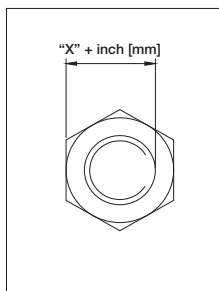

Figure 6
1. Measure the distance from the flat of the nut to the furthest side of the bolt. See Figure 6.